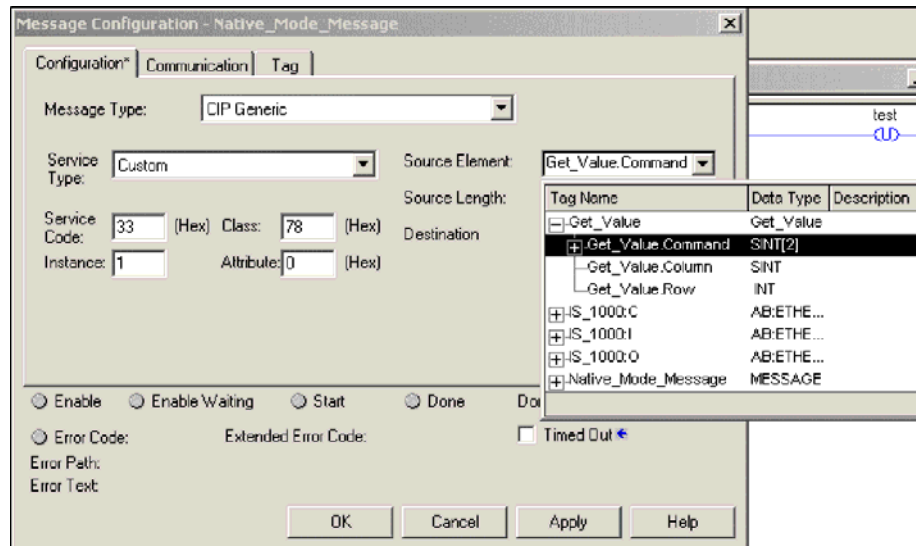

Figure 2-6: Message Configuration (Configuration Tab) Dialog
- Configure the **Configuration** tab as shown in Table 2-1 and Figure 2-6.